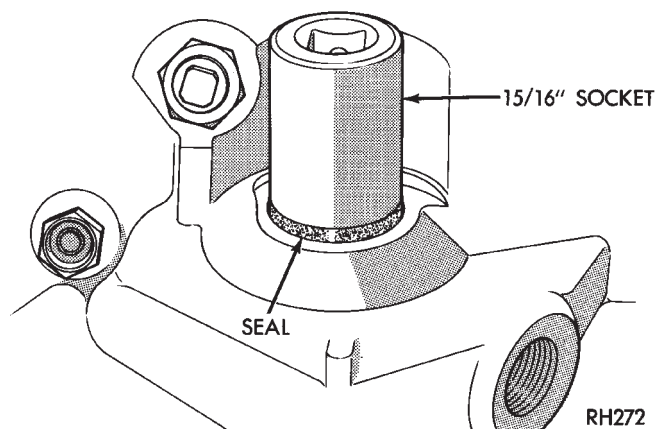

Fig. 29 Manual Lever Shaft Seal
(2) Check condition of manual lever shaft seal in transmission case. Replace seal if lip is cut or worn. Install new seal with 15/16 deep well socket (Fig. 29).